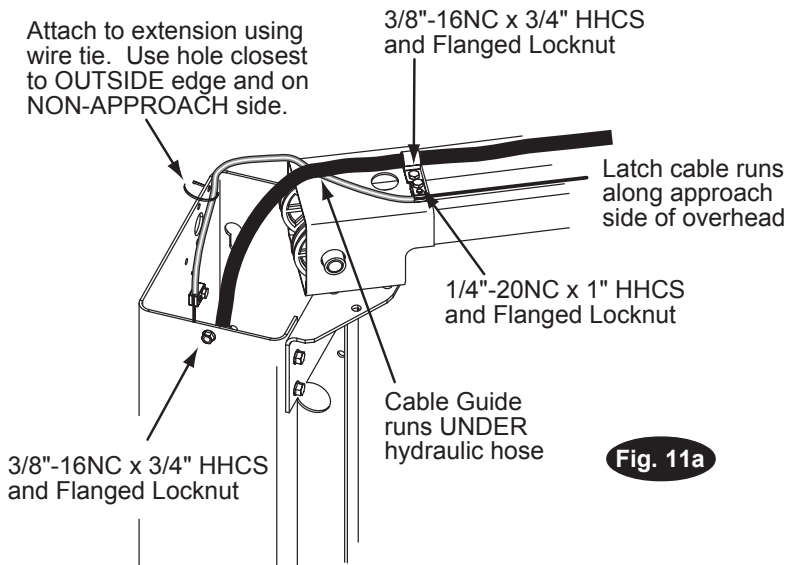

Fig. 11a
NOTE: Route Power Unit hose inside columns using slots provided at column base, Fig. 9b. Route Overhead Hose in column channel on outside of column, Fig. 9b. Overhead hose goes over top end of overhead assembly, Fig. 11a.
- D) Attach latch cable conduit guide brackets to overhead as shown, Fig. 11a & Fig. 11b. Always use the holes on the approach side of the lift. HHCS should be in hole nearest the center of the overhead, Fig. 11b.
- E) Route cable up inside column and through the latch cable guide, Fig. 11a & Fig. 12.
IMPORTANT Using wire ties provided, tie off cable guide to column extension as shown, Fig. 11a. Guide must be attached in hole closest to the outside edge of the column on the NON-APPROACH side.
- F) Continue routing cable to the left column latch cable guide, Fig. 11a & Fig. 12, routing the cable through the left column latch cable guide, Fig. 11a.